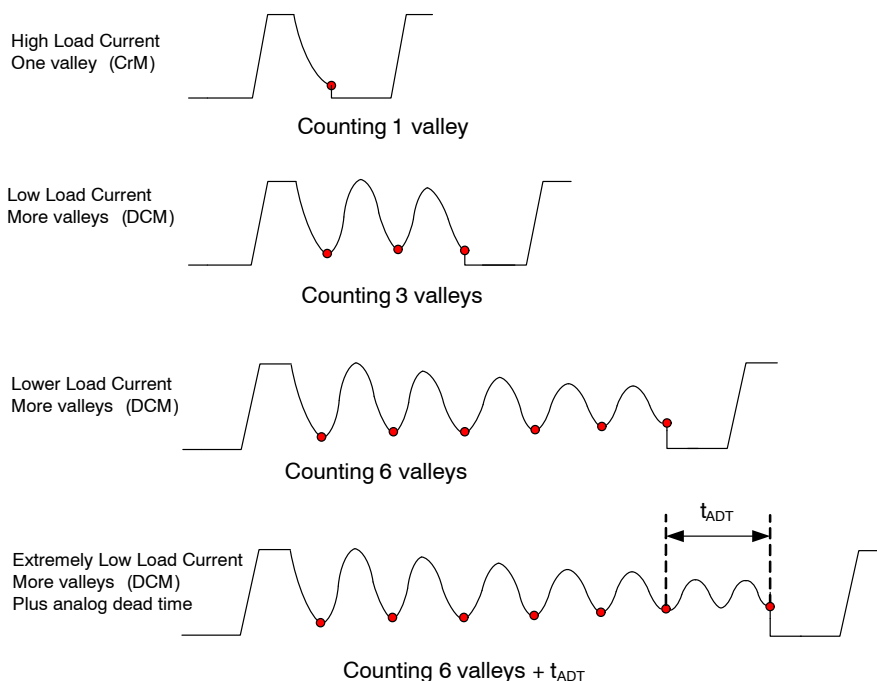
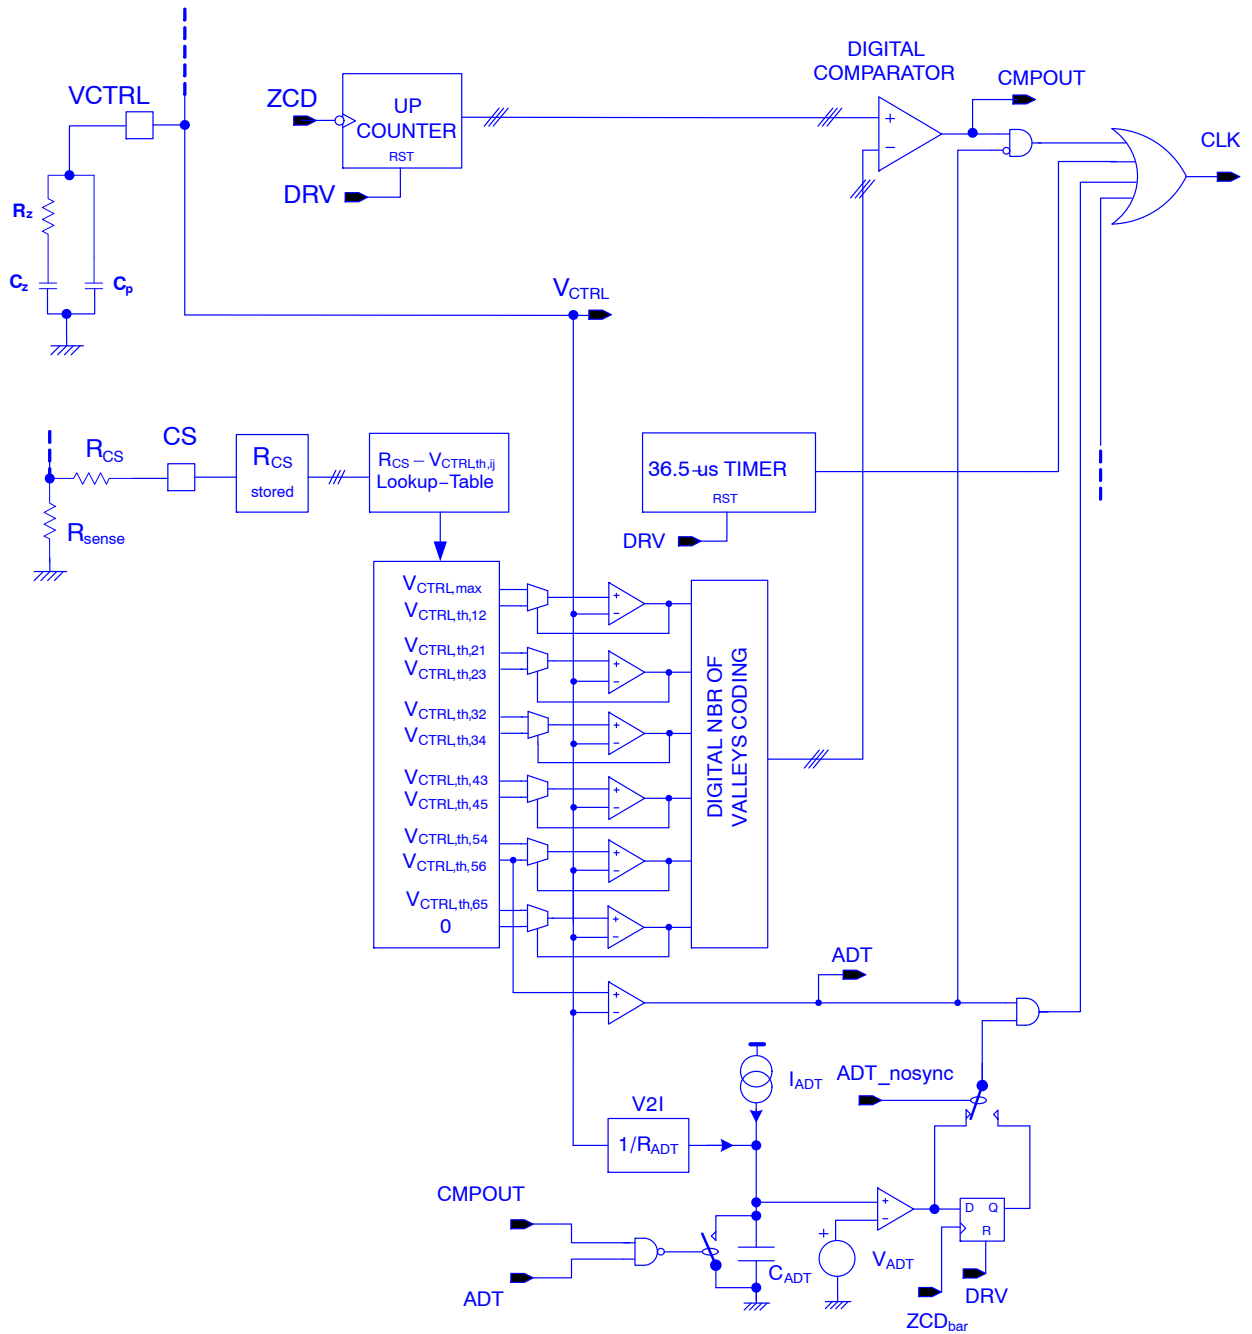
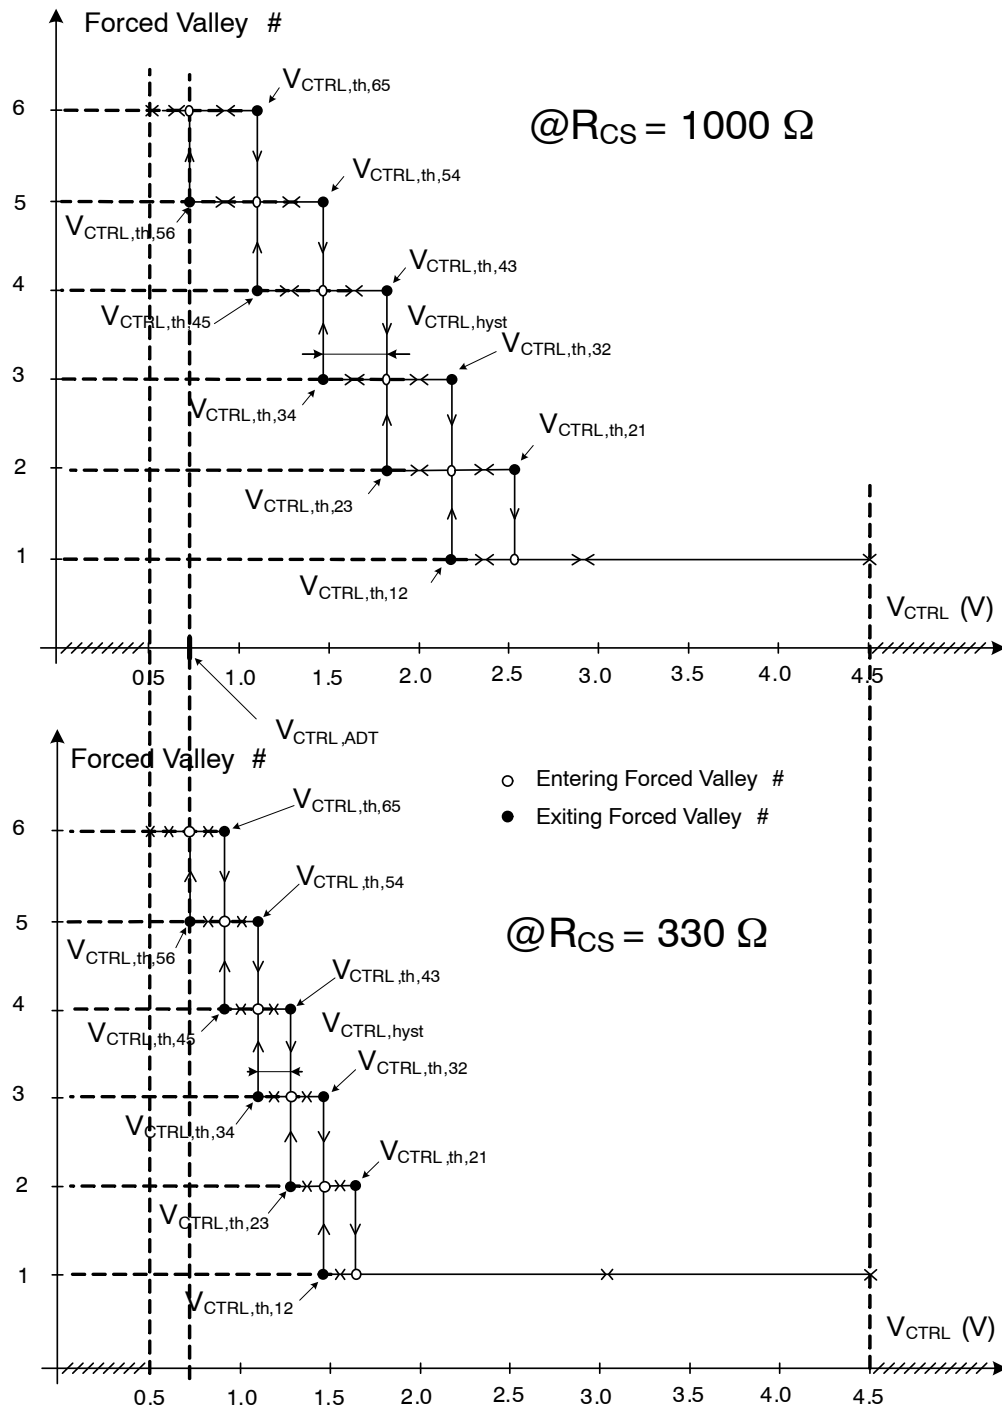

Figure 3. Valley Switching Operation in CrM and DCM Modes Seen Through Power MOSFET Drain Voltage
Figure 4. Valley Count Turn-on Block Diagram
Figure 7. Forced Valley Number versus VCTRL Pin Voltage For a Two Different RCS Values of the Mandatory List {150 Ω, 330 Ω, 620 Ω, 1000 Ω}
- **Valley Count Frequency Fold-back:** NCL2801 is designed to drive PFC boost stages in so-called Valley Count Frequency Fold-back (*VCFF*). In high load current condition, the circuit classically operates in *Critical conduction Mode (CrM)* also called 1st valley switching. When output power is decreasing, if a threshold is reached (determined by sensing the CS pin impedance during initial power up), a dead time based on a number of valleys is added. The number of valleys will increase, each time a dead time window (based on V_{CTRL} value) is entered. By construction, this counting process will avoid valley hopping during the mains voltage period. If the output power continues decreasing and the 6th valley is reached, extra “analog” dead time will be added based on a voltage ramp (see Figure 4). On-time will be synchronized with a valley. A timer will clamp the total switching period to not exceed 36.5 μ s (the switching frequency will never go under about 27.4 kHz). The switching frequency depends on output voltage, input voltage, and boost inductor value, and increases as the load power increases. Hysteresis is added to the V_{CTRL} control windows to avoid valley hopping during steady state conditions. *VCFF* maximizes the efficiency at both nominal and light load. Similarly to *FCCrM* controllers, an internal circuitry allows near-unity power factor even when the switching frequency is reduced.
valley number count up to 6 valleys (the number of valleys between end of inductor demagnetization and power MOSFET turn-on determines the dead time value). After counting is done, the power MOSFET turns on at drain voltage valley. When 6th valley is reached and VCTRL voltage stays under 0.77 V, an extra “analog” dead time is added based on a voltage ramp (see Figure 4). The added analog dead time t_{ADT} is based on 0.77 V minus VCTRL value. t_{ADT} will be equal to zero when $(0.5\text{ V} - V_{CTRL}) = 0\text{ V}$ and will increase monotonically versus VCTRL decreases while VCTRL is under the 0.77 V threshold corresponding to $V_{CTRL,th,56}$. The analog dead time added t_{ADT} will equal typically 20 μs when $V_{CTRL}=0.5\text{ V}$.
As illustrated in Figure 3, under high load conditions, the boost stage is operating in CrM (only one valley is counted before turning on the power MOSFET). The second example shows a DCM state of operation where 3 valleys have been counted before turning on the power MOSFET. The third example shows a DCM state with lower output power than the previous one where 5 valleys have been counted before turning on the power MOSFET. The fourth example shows how additional dead time is added after 6th valley.
means of counting the falling edges of the ZCD signal until the counter reaches the number of valleys set by the window in which the VCTRL pin voltage is (see Figure 4). The 3-bit counter allows to work “Valley synchronized” up to 6 valleys. When the 6th valley is reached, and VCTRL is lower than 0.770 V ($V_{CTRL,th,56} = 0.770$ V whatever frequency foldback threshold setting), an additional analog dead time will be added to the 6 valleys dead time and there will be valley synchronization turn-on of the power MOSFET ($ADT_nosync = 0$ by default) based on falling edge of ZCD signal. The total dead-time (number of valleys and extra analog dead-time) will not exceed 36.5 μ s. As a result of this timer the minimum switching frequency will not go under 27.4 kHz.
There will be a different DCM to CrM threshold than CrM to DCM making an hysteresis to avoid valley hopping (see Table 7 and Figure 4).
As shown in Figure 7, the forced number of valleys, shown in the Y-axis, depends on 5 VCTRL pin voltage windows,
results from output power decrease. We can also mention looking at Figure 7 and the specified frequency foldback thresholds of Table 7 that $V_{CTRL,th,56}$ which is the V_{CTRL} threshold at which we force counting 6 valleys, has always the same value. This threshold is also called $V_{CTRL,ADT}$ because when V_{CTRL} pin voltage falls under this threshold, an analog dead-time starts to be added to the dead-time determined by counting 6 valleys. The lower V_{CTRL} pin voltage goes under $V_{CTRL,ADT}$ threshold, the more analog dead time is added. An example on how the analog dead time can be added is shown in the circuit of Figure 4 and the correspond power MOSFET drain voltage is shown in Figure 3.